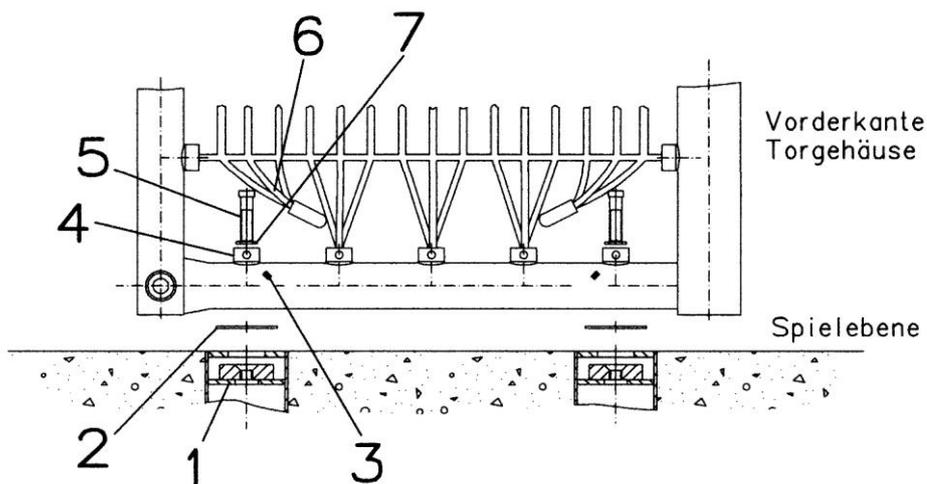

Figure 4
The ROWOCON®-sleeves (4) in the side parts of the smb-citytor original II are to be provided with screws M16 (5) and lock washers (7). The ropes (6) of the goal net are not fixed at this point (Figure 4).
- *If there is a noticeable instability / tilting, check the respective boltings and re-tighten. See figure 4 for the procedure.*